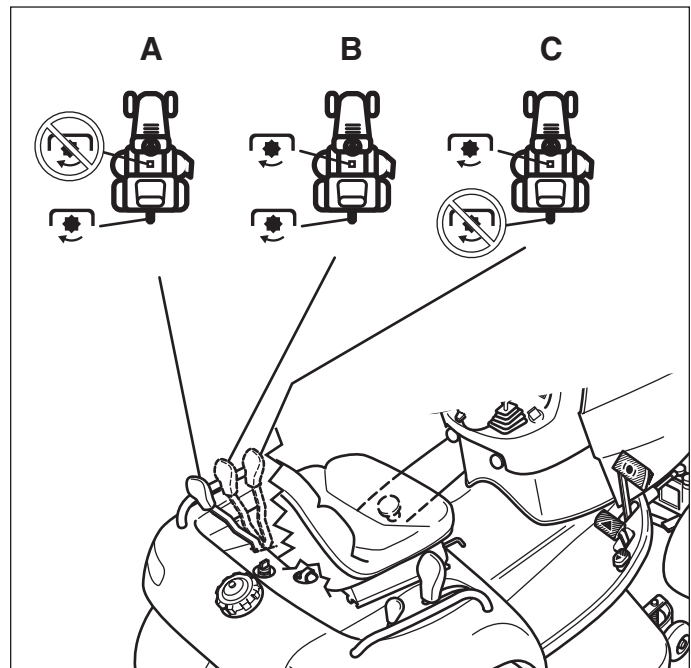

Figure 16. PTO Selector Lever
5. Place the PTO selector lever in the rear position (A, Figure 16) if only a rear attachment is being used. If a mid and rear attachment are being used simultaneously, place the lever in the mid position (B). If only a mid or front attachment is being used, place the control in position (C).